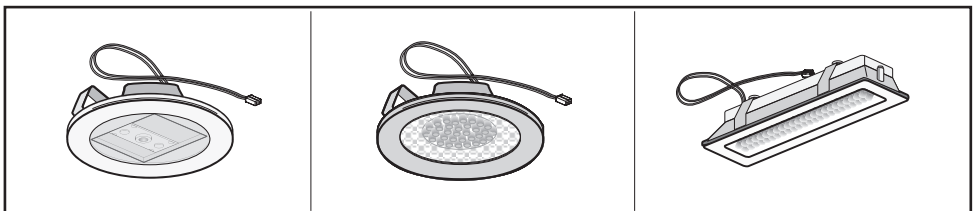

Fig.14
• Replacing LED lamps (Fig.14):